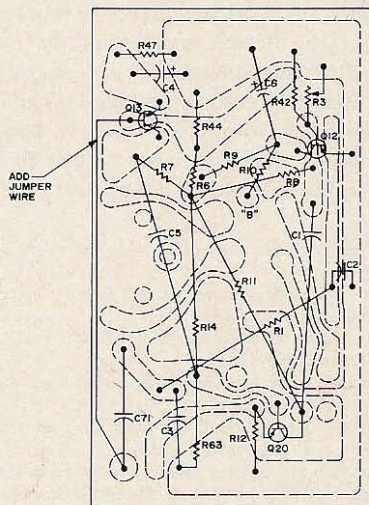

Fig. 6. Phantom view of copper side of reed amplifier board showing location of squelch after modification.
21. Insert a 4 1/2 in. piece of wire between point B on the reed amplifier board and point A on the audio board. (See Fig. 6).
22. The following parts and jumper wire should now be inserted as per Fig. 6.